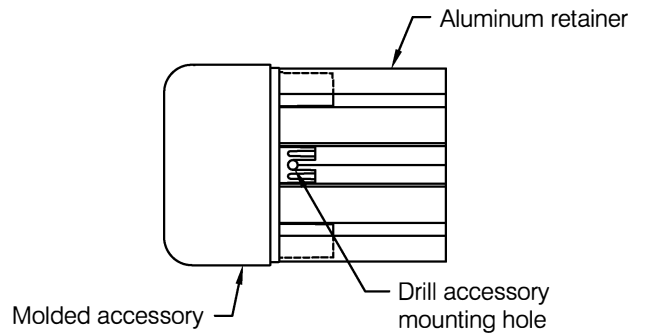

fig 4
- Step 6:** Insert molded accessories into end of retainer, press firmly to ensure molded part is seated squarely against the end of the retainer. Drill accessory mounting holes using the accessory as the template, see **fig 4**.